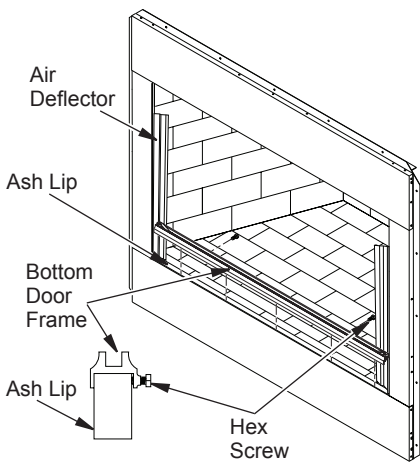

Figure 30 - Installing Bottom Door Frame and Air Deflector
Slide air deflector in between the front side face and side brick panel (see Figure 30, page 17). The notched end of the deflector sits on bottom hearth. Air deflector does not require any fastening.
The front side faces and side brick panels will hold the deflector in place (see Figure 30, page 17).
3. Place bottom door frame on top of ash lip at front of fireplace (see Figure 30, page 17).
4. Secure bottom door frame to brick with two hex screws provided as shown in Figure 30, page 17 using a 7/16" open end or adjustable wrench.